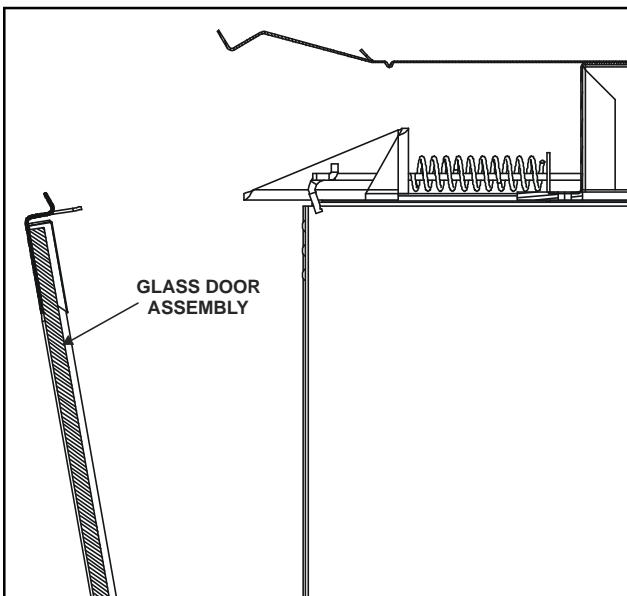

FIGURE 32.
- Noting carefully how the brackets fit on the glass, release the two spring latches at the top and two at the bottom of the glass door. Carefully lift the glass up and out away from the appliance. See Figure 32.